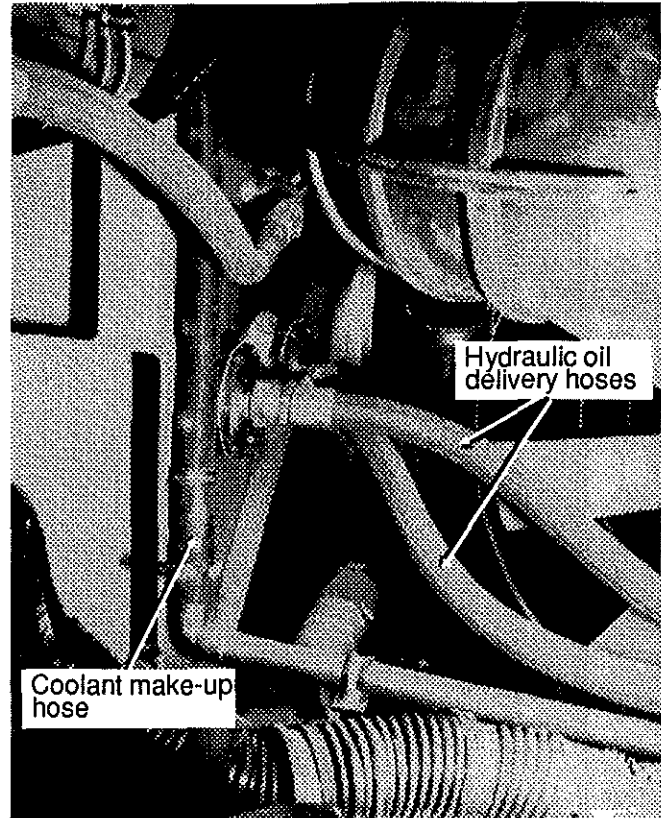

FIG. 11
37. To perform the following steps in the propeller shaft area, disconnect both hydraulic oil delivery hoses from the hydraulic oil tank (see fig. 11).
38. Disconnect the coolant make-up hose running along the rear wall (see fig. 11).